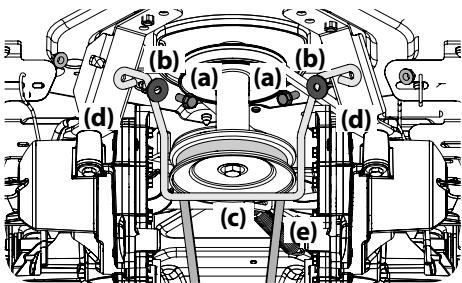
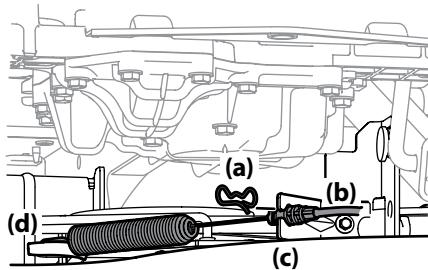

Figure 4-12
Figure 4-13
- Remove the hex washer screw (a), flat washer (b) securing the belt keeper rod (c) to the transmission mount brackets (d) and remove the belt keeper rod (c). See Figure 4-12.
- Remove the bow pin (a) that secures the PTO cable (b) to the bracket (c) on the deck, slide the PTO cable (b) out of the bracket (c) and unhook the spring from the idler bracket (d). See Figure 4-13.
- Remove the 'V' belt (e) from the PTO pulley on manual PTO tractors on the bottom of the engine and skip ahead to Step 9. See Figure 4-12.
- On manual PTO tractors, reinstall the belt keeper rod (Refer to Figure 4-12) and the PTO cable (Refer to Figure 4-13).